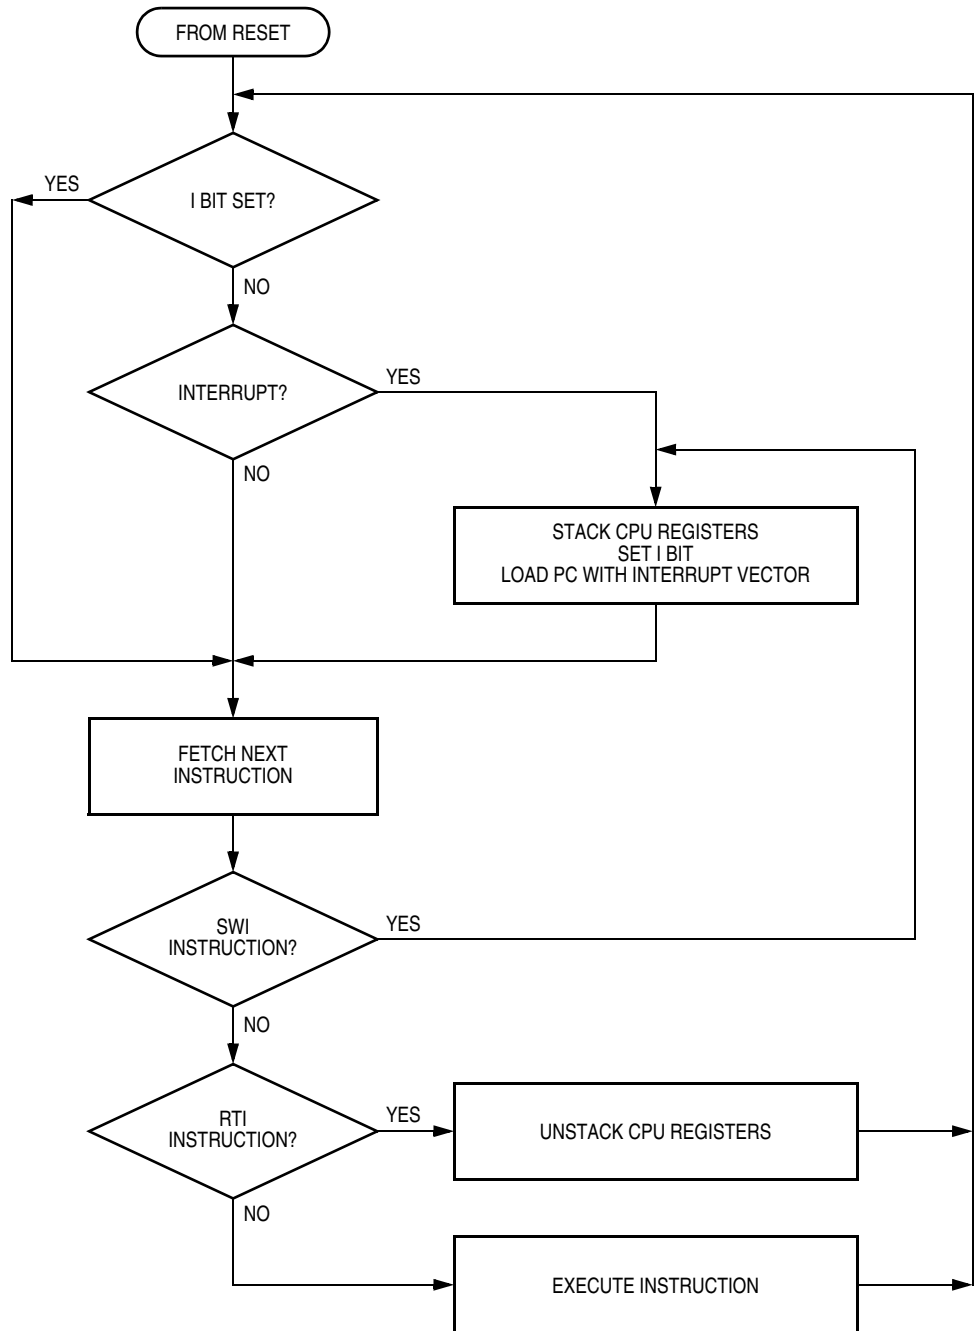

Figure 8-3. IRQ Interrupt Flowchart
NOTE: *The interrupt mask (I) in the condition code register (CCR) masks all interrupt requests, including external interrupt requests. (See Figure 8-3.)*